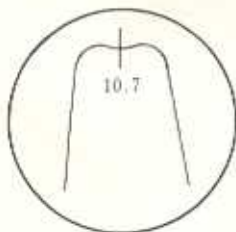

Fig. 3
(1) RF Amplifier
(2) First IF Amplifier
- b) Set the frequency of the sweep generator to 10.7 MHz, and apply output from the generator. Adjust T₁₀₁ until the scope pattern illustrated in Figure 3 is obtained.